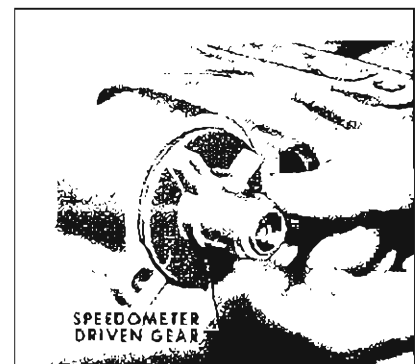

Figure 5-332
1. Install speedo driven gear assembly into rear bearing retainer. See Figure 5-332.